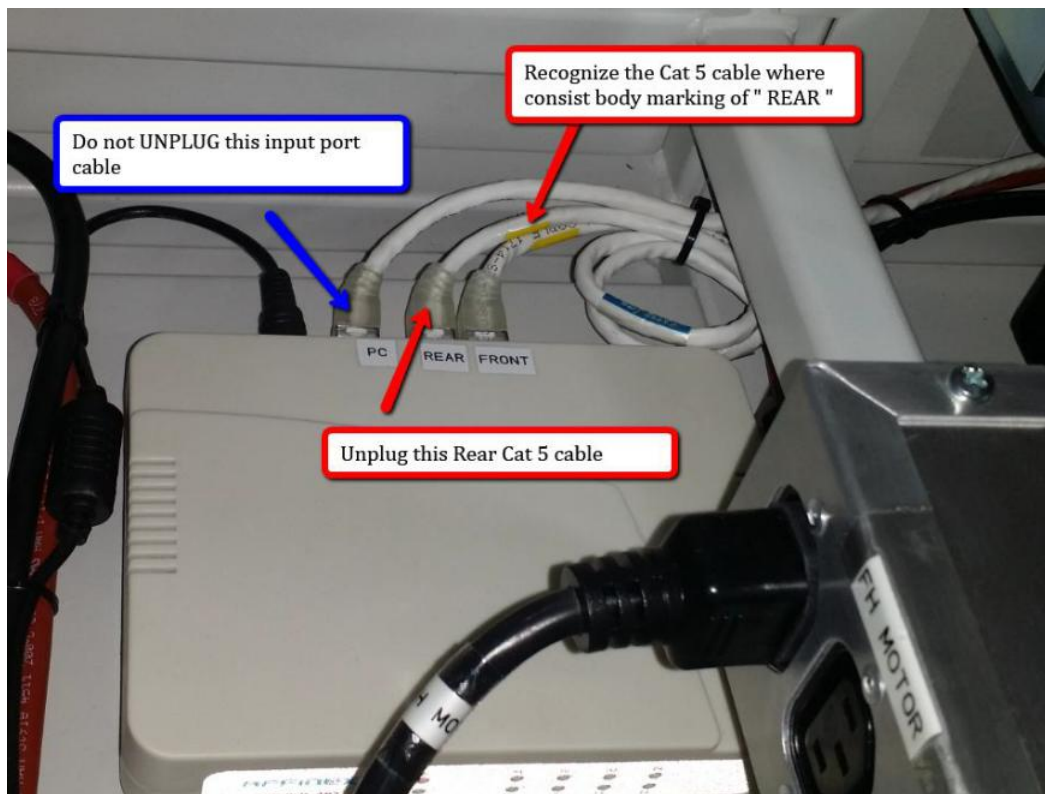

Figure 5 POE SWITCH CAT 5 CABLE
5. Perform Marking at below cable and unplug 1 x REAR Cat 5 cable at POE SWITCH (which allocated at rear server area) as below Figure 5.